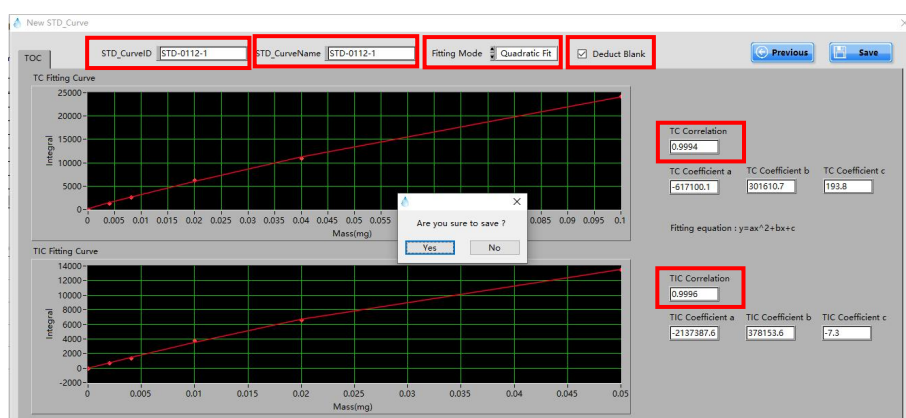

Fig 4.30
Step 5 Click  to enter the standard curve saving interface (Fig. 4.30). Input the standard curve ID and standard curve name, select fitting mode as 'Quadratic Fit', the correlation coefficient should be no less than 0.999. Whether to deduct the blank value or not depends on the actual demands.